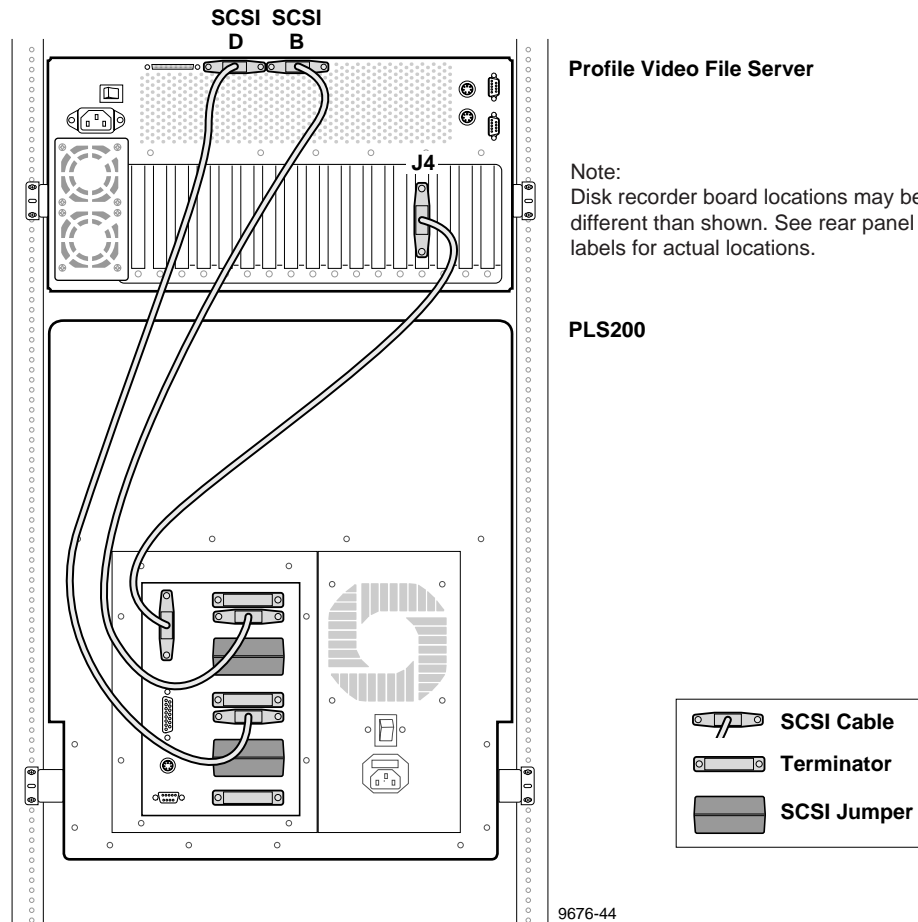

Figure 2-23. Example 3: Profile Video File Server to PLS 200 Connections
Example 3 (Figure 2-23) shows connection of a Profile Library System (PLS200) to a Profile Video File Server equipped with a Slave EDR. This example allows archiving material on the Profile Video File Server to the PLS200 through the SCSI B and SCSI D buses. The System SCSI board at Profile Video File Server Slot J4 provides control signal for the library robot.
**NOTE:** This example requires attachment of SCSI Terminators on the PLS200 as shown in Figure 2-23.